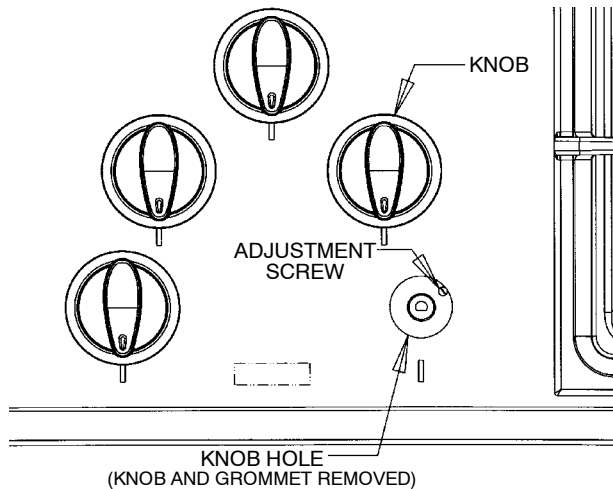

FIGURE 11
C. LOW FLAME ADJUSTMENT (See figure 11)
3. Locate the valve adjustment screw. See figure 11.
4. Locate the valve adjustment screw. See figure 11.